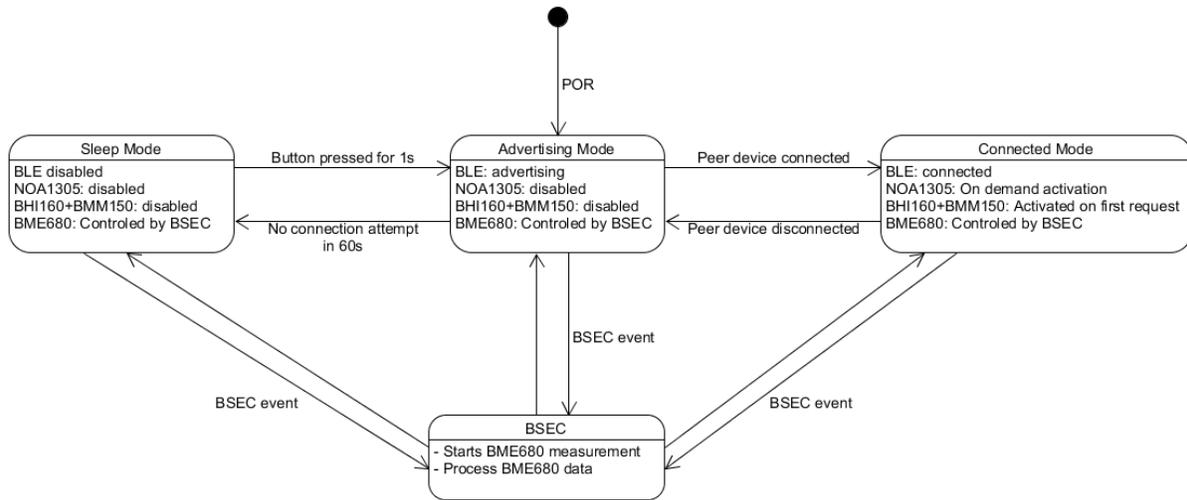

Figure 30.
26. Low power firmware – block diagram. The diagram in Figure 30 depicts detailed high level operation of ultra–low power firmware.